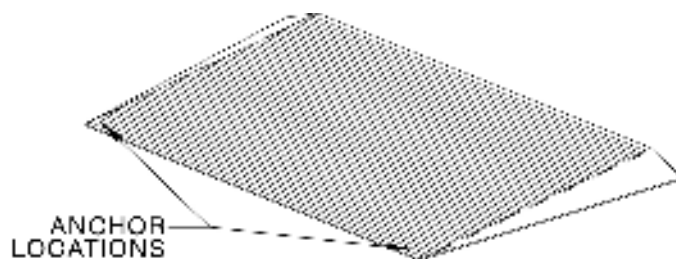

FIG. 3
- 6.1 To ensure that the mat does not move from its intended location, place the mat and anchor in both locations shown (FIG. 3).
- 6.1.1 **ANCHOR TO WOOD:** Using provided (2 ea.) Phillips head screws, spaced evenly approximately 1" from each lower corner edge as shown (FIG. 3), drive screws through the mat and into the wood surface until the head is seated just below the mat surface.
- 6.1.2 **ANCHOR TO CONCRETE:** Using a $\frac{1}{4}$ " diameter masonry bit, drill a hole through the mat and 2" deep into the concrete, spaced evenly approximately 1" from each lower corner edge as shown (FIG. 3). Remove debris from drilled holes, then drive the provided (2 ea.) $\frac{1}{4}$ " diameter mushroom head pin anchors through the mat and into the holes with a hammer until the head is seated just below the mat surface.